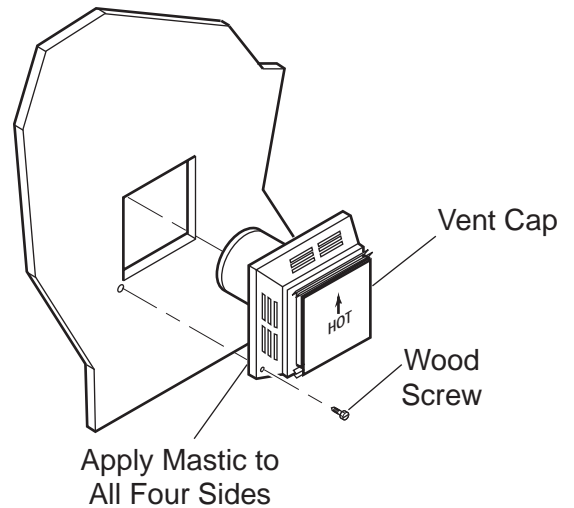

Figure 18 - Installing Horizontal Termination
4. Apply a bead of non-hardening mastic around the outside edge of vent cap. Position the vent cap in the center of hole on the exterior wall with the word "HOT" on the vent cap facing up. Insure proper clearance of 1" to combustibles is maintained to the flue. Attach the vent cap with four wood screws supplied. See Figure 18.